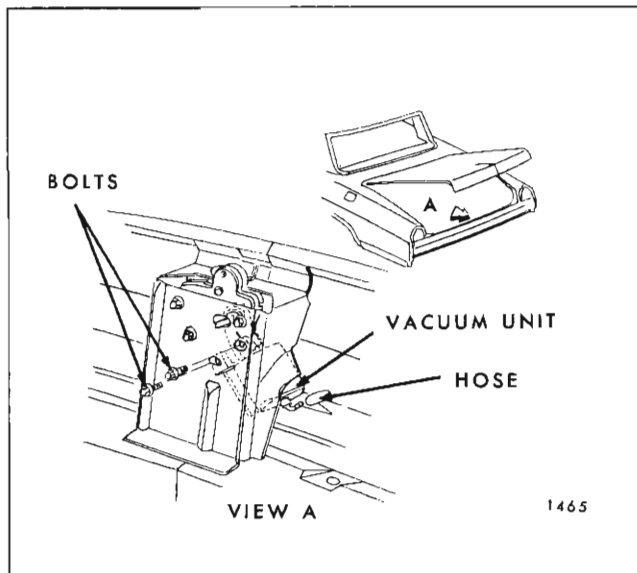

Fig. 1F15—Rear Compartment Vacuum Release Unit
2. Disconnect vacuum hose from vacuum release unit, remove vacuum unit attaching bolts and remove unit from rear compartment (see Fig. 1F15 for 25000 and 26000 Series, and Fig. 1F16 for 35000, 36000, 38000, 45000, 46000 and 48000 Series).